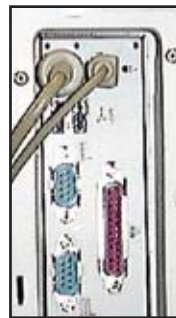

Figure 7. Rear view of the computer parallel and serial ports.
5. The cable configuration between the cutter and computer should resemble the photo in **Figure 7**.